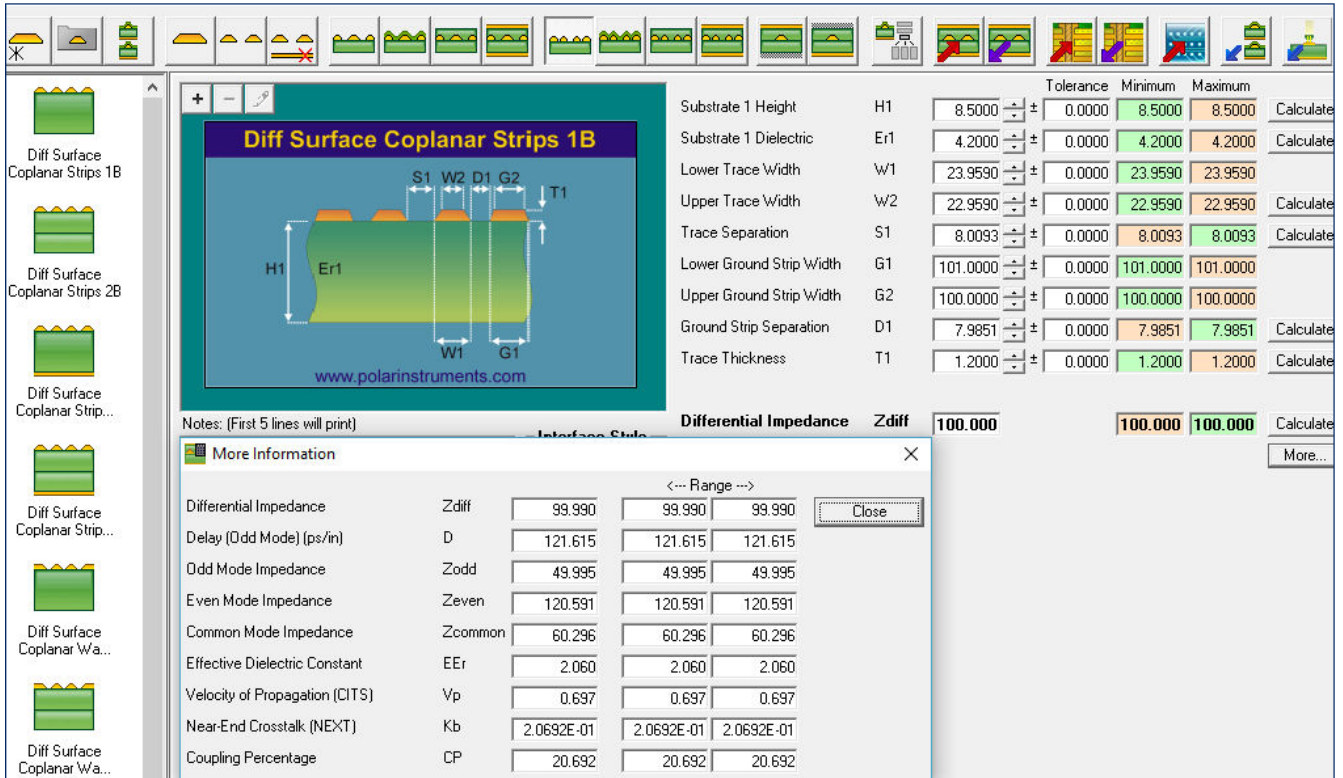

Figure 5. Polar Instruments – Impedance Calculation
- Figure 5. Polar Instruments – Impedance Calculation5